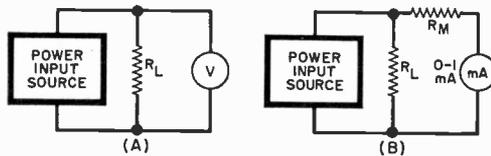

Fig. 2. Power measuring methods. (A) shows basic approach to measuring power, while (B) illustrates the method used in the Power and Impedance Meter.
**Calibration Method.** The Power and Impedance Meter uses the  $E^2/R$  approach to measuring power. The basic circuit is shown in Fig. 2(a). The power dissipated by  $R_L$  is  $E^2/R$ . Thus if  $R_L$  is 100 ohms and the voltmeter indicates 5 volts, the power is  $5^2/100$  or  $1/4$  watt. Because power is proportional to the square of the meter deflection, the scale is non-linear. As an example, if the desired full-scale indication is 2 watts, then the 1-watt indication mark is  $1/\sqrt{2}$  or 0.707 of full scale.
Assume that the meter in Fig. 2(a) indicated 10 volts full scale. With a 100-ohm resistor, the power is 1 watt. If the resistor is changed to 500 ohms, the